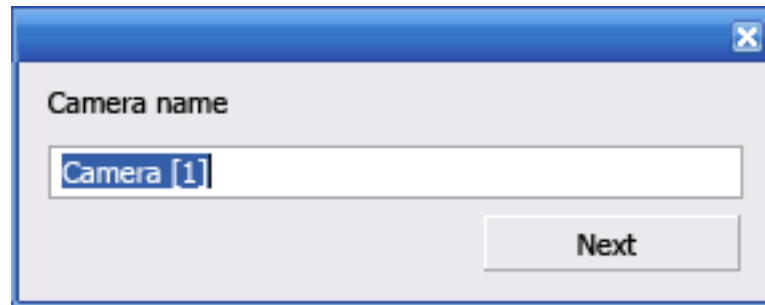

Fig. 4.10-12 Dialog box for file name specification
- 4.1. Type the file name in the appearing box (see Fig. 4.10-12) and click “Continue”.